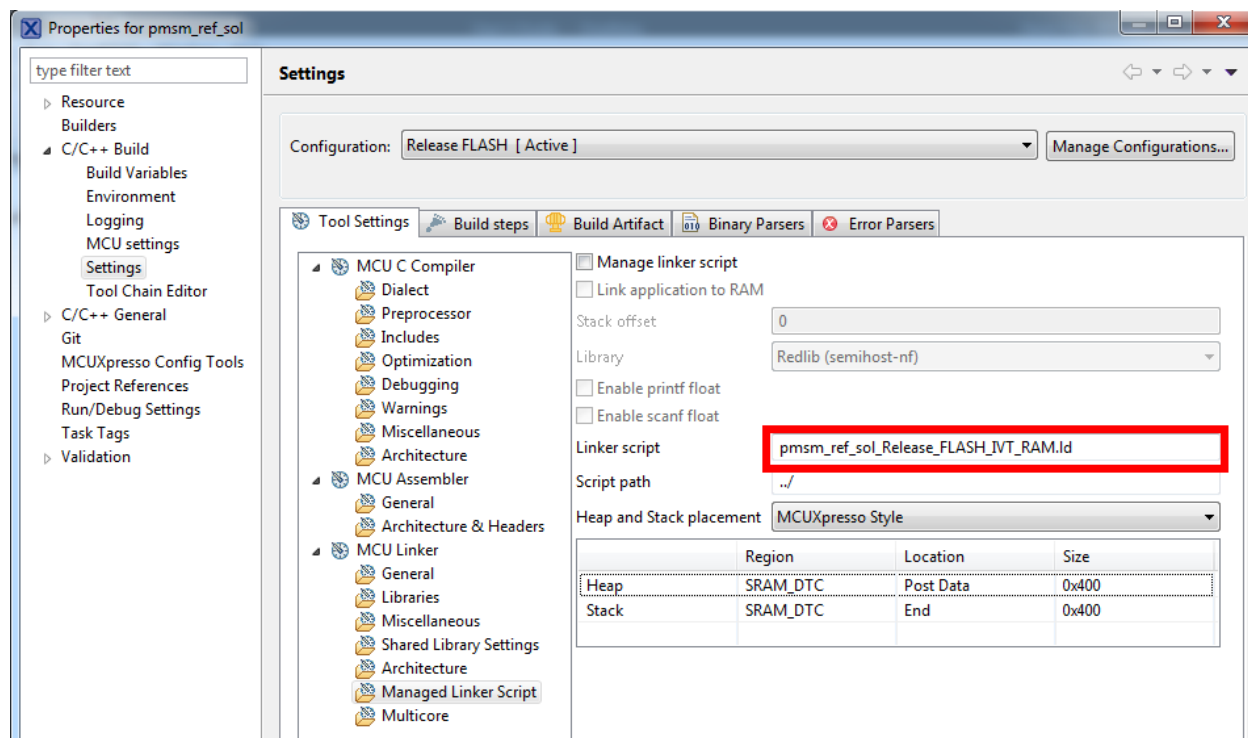

Figure 14. MCUXpresso linker file path
- Change the linker file path. Go to the “Project->Properties->C/C++ Build->Settings->Tool Settings” tab. Select “Managed Linker Script” in the list of the “MCU Linker” settings and find the “Linker script” text box. Change its value to “pmsm\_ref\_sol\_Release\_FLASH\_IVT\_RAM.ld” (see Figure 14).